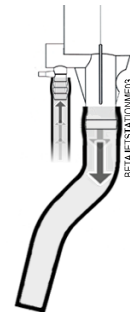

Figure 3. Connecting Tubing
6. Route discharge tube (over any anti-foam tube) to the large barb, as shown in Figure 3, and secure onto barb with tie wrap.
7. Connect chemical pickup tubing to the small barb as shown in Figure 3.